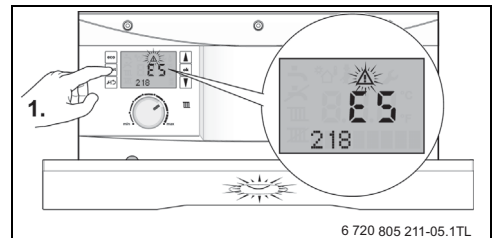

Fig. 7
1. A fault condition is indicated by a flashing blue operation/fault light and an triangular alert symbol on the display. A flashing **fault code** is also displayed, see figure 7.
- ▶ Make a note of these fault codes, in the table below as an example see figure 7, fault codes E5 and 218.